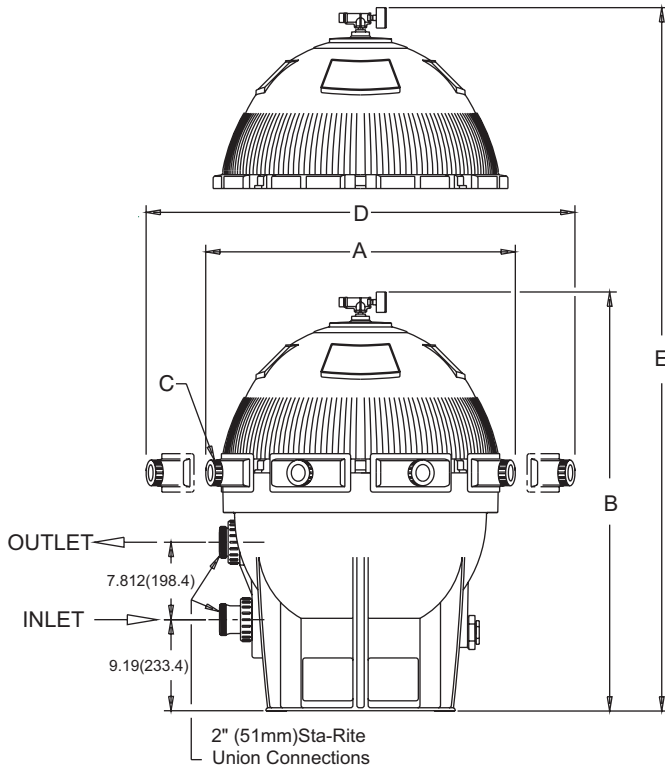

FIGURE 1 – Dimensions in inches (mm)
- Provide space and lighting for easy access for routine maintenance. (See Figure 1 and Table II, Page 6, for space requirements.)